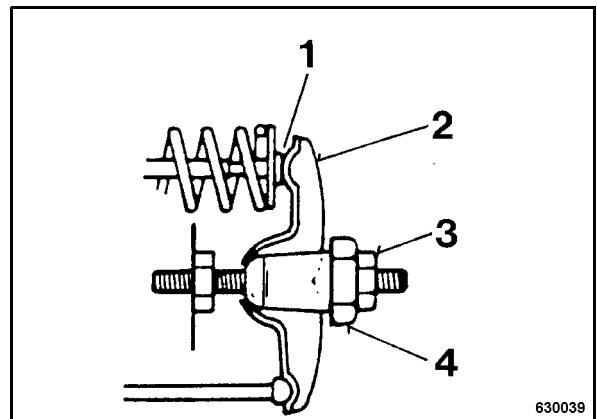

Fig. 62
- Hold hexagon nut (4) (Fig. 62) on the rocker lever and loosen counter nut (3).
- Adjust hexagon nut on the rocker arm so that the feeler gauge fits between rocker arm (2) and valve shaft (1) with noticeable resistance after retightening counter nut.